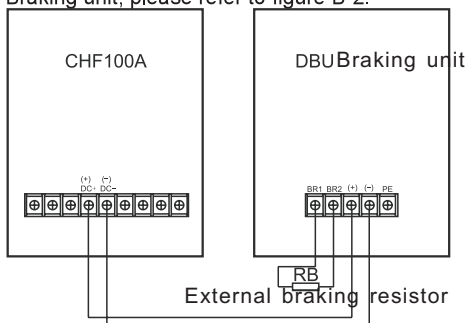

Figure B-2 Connection of braking unit
B.2.2.2. Connection of Braking unit, please refer to figure B-2.